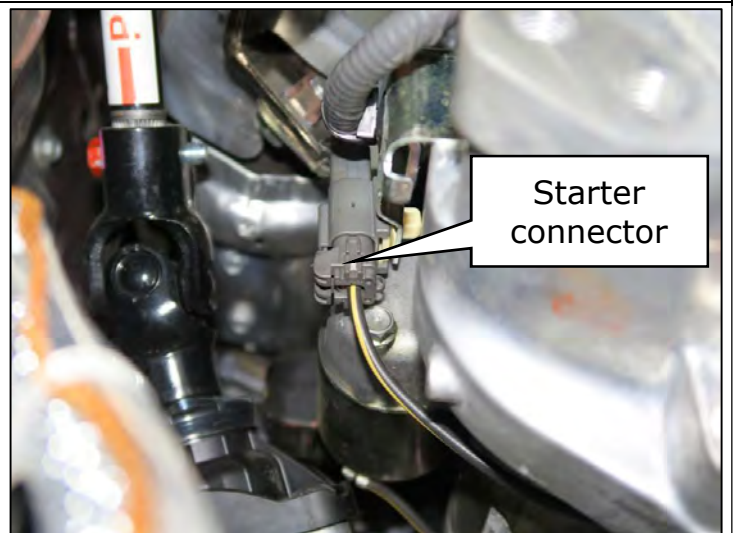

Figure 48
49. Disconnect the starter solenoid connector. (Figure 48)